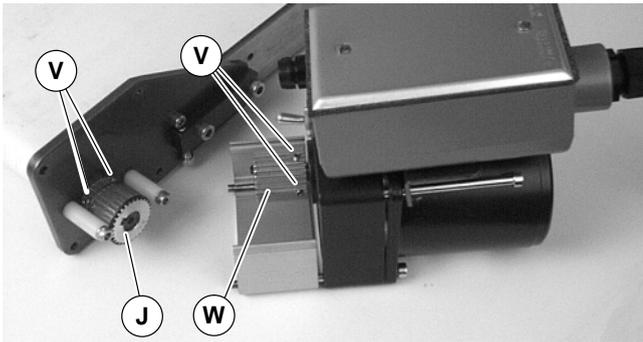

Figure 14
- Loosen set screws (V of Figure 14) and remove driven pulley (J) or drive pulley (W).